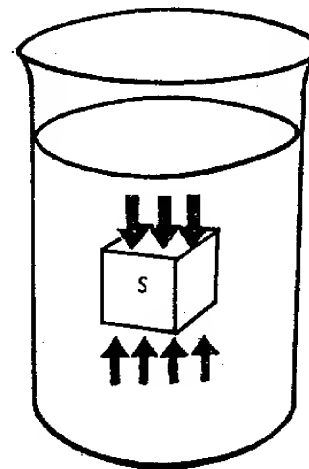

Fig. 94
Imagine a cube of water (S) in the middle of a large beaker of water at rest (Fig. 94). As the cube is in equilibrium the force below it pushing it up must be greater than the force pressing down on it from above. If this were not so, the cube of water would sink because of its weight.